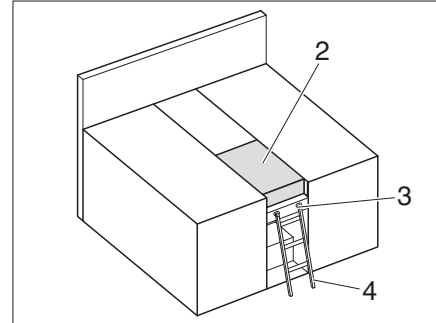

Fig. 172 Double bed
- Lay on the additional cushion (Fig. 172,2).
Access ladder Always use the access ladder (Fig. 172,4) provided as standard to reach the top bed.
Attaching: ■ Attach the access ladder (Fig. 172,4) with the rails to the holder (Fig. 172,3) on the panel.